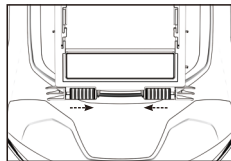

Fig. 1
- Push the tab on bottom frame to the central part to unlock the frame. (See Fig. 1)